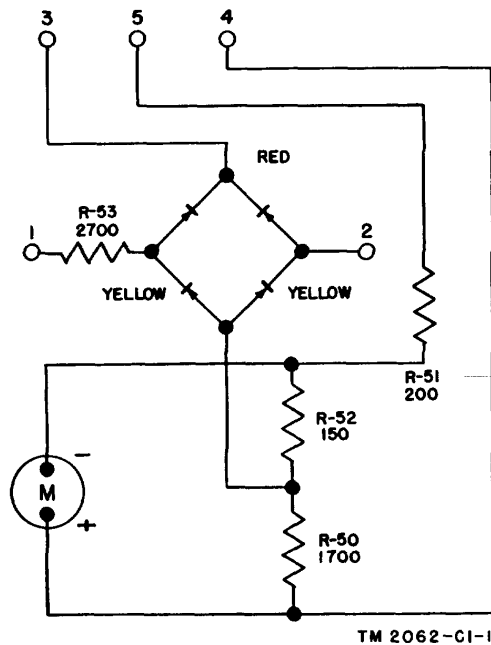

Figure 14.1 (Added). Meter circuit, schematic diagram, Test Set I-142-B.
**72.1 Meter Circuit, Test Set I-142-4 (fig. 14.1) (Added)**
In Test Set I-142-B, the meter circuit components which are shown in figure 14.1 are mounted on the long resistor mounting board on the panel. Figure 14.1 shows the connections which are made to terminals 1 through 5 on the back of the meter case.
Test Set I-142-B, check resistors R50, R51, and R52 for continuity. In addition, be certain that the black lead from the junction of resistors R50 and R52 (fig. 14.1) to the rectifier is not shorted to ground; if these components are in satisfactory condition, replace the meter